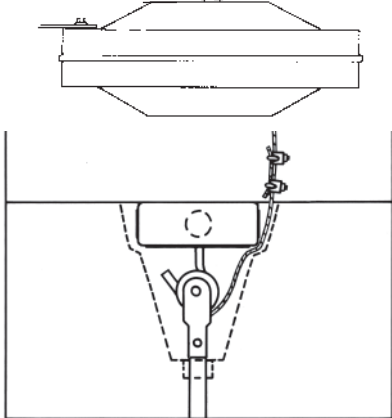

Figure 3
9. This fan is equipped with the required “secondary support” cable. This cable must be affixed to the beam structures and securely clamped in such a manner to support the weight of the fan in the event the mounting hook or other parts fail. After wrapping cable around a structural member that will support 300 lbs., secure cable with supplied cable clamps as illustrated in Figure 3. (Note: Any additional materials needed for specific installations may be purchased from your local distributor.)
IMPORTANT CAUTION: The safety cable must not be placed between the rubber roller and hook but as illustrated in Figure 3.
10. When hanging fan on factory supplied "J" hook, make sure cable at top of rod is positioned behind "J" hook as illustrated in Figure 3.